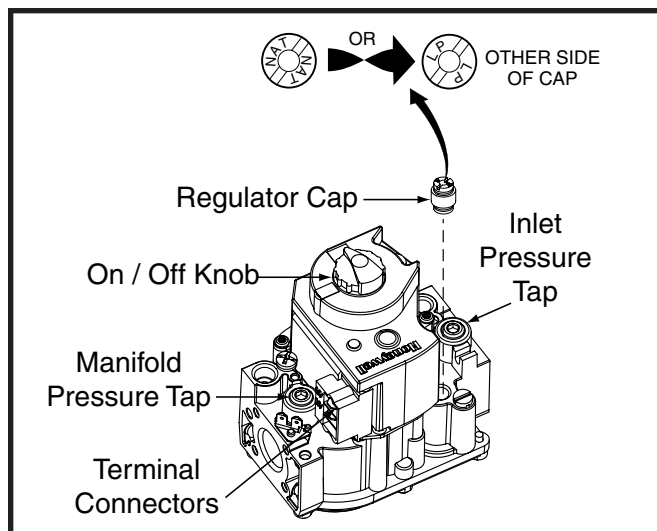

Figure 20. Gas Valve
Converting single stage valves to LP/Propane requires the replacement of the burner orifices and flipping the regulator cap to the side marked LP. The end facing up should now read LP. See Figure 20.
5. Turn the gas valve ON/OFF knob to the OFF position. See Figure 20.
2. Using a 3/16" Allen wrench, remove the plug from the inlet pressure tap (INLET side of gas valve). See Figure 20 \(page 20\).
4. Turn the gas valve ON/OFF knob to the ON position. See Figure 20 \(page 20\).
3. Using a 3/16" Allen wrench, remove the manifold pressure tap plug located on the outlet side of the gas valve. See Figure 20 \(page 20\).